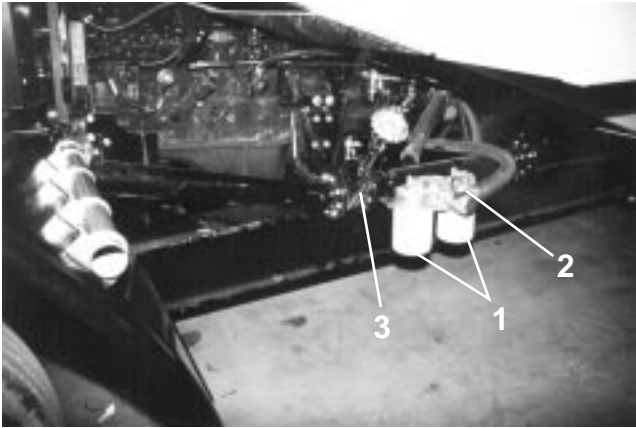

Figure 24 Suction Filters
5. Make sure the gate valve (Fig. 24) in the suction tube is turned full counterclockwise (open) with sleeve and handle installed. Do not attempt to start the engine with the gate valve closed. This will block flow to the